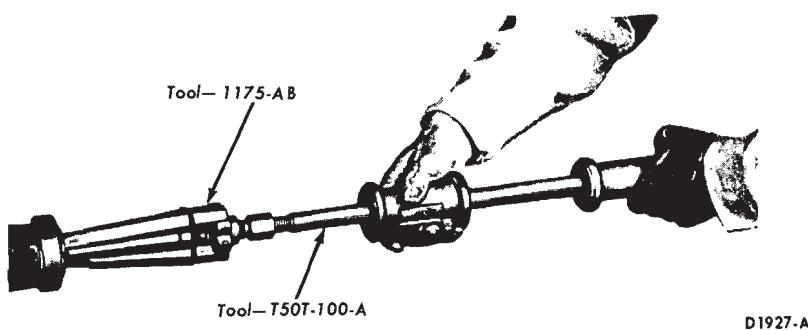
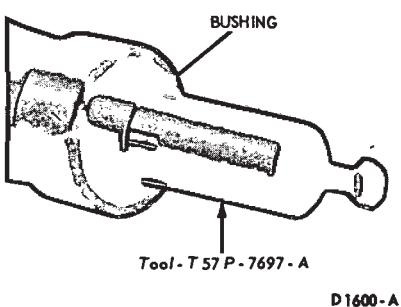

FIG. 18—Removing Extension Housing Seal
FIG. 19—Removing Extension Housing Bushing
3. When only the rear seal needs replacing, carefully remove it with a tapered chisel or the tools shown in Fig. 18. Remove the bushing as shown in Fig. 19. Use the bushing remover carefully so that the spline seal is not damaged.